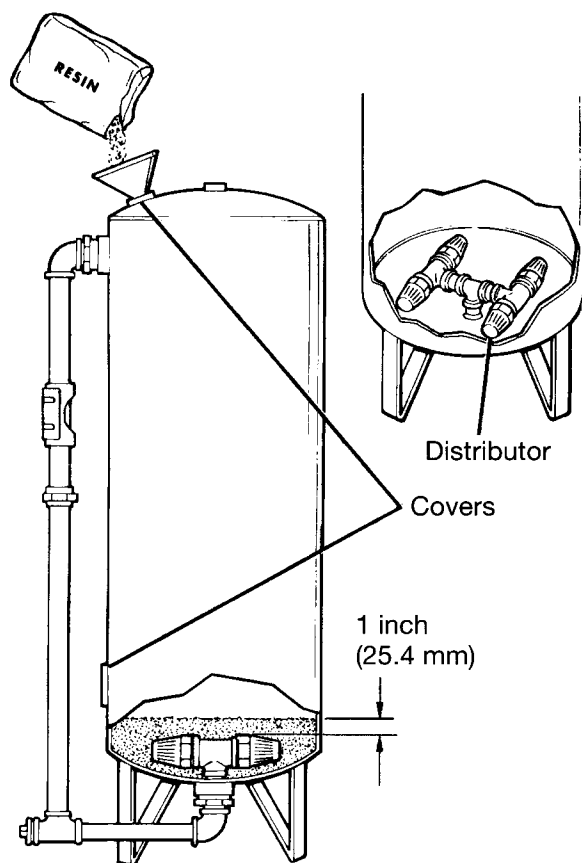

Figure 4
1. Remove covers from the top and side openings of mineral tank. Inspect the bottom distributor inside the unit for damage. Reference Figure 4. Inspect the sealing surface of both tank openings. Remove any rough spots with a file.
3. Level gravel through side opening. The gravel should cover the distributor screens to a depth of 1 inch (25 mm). Reference Figure 4.